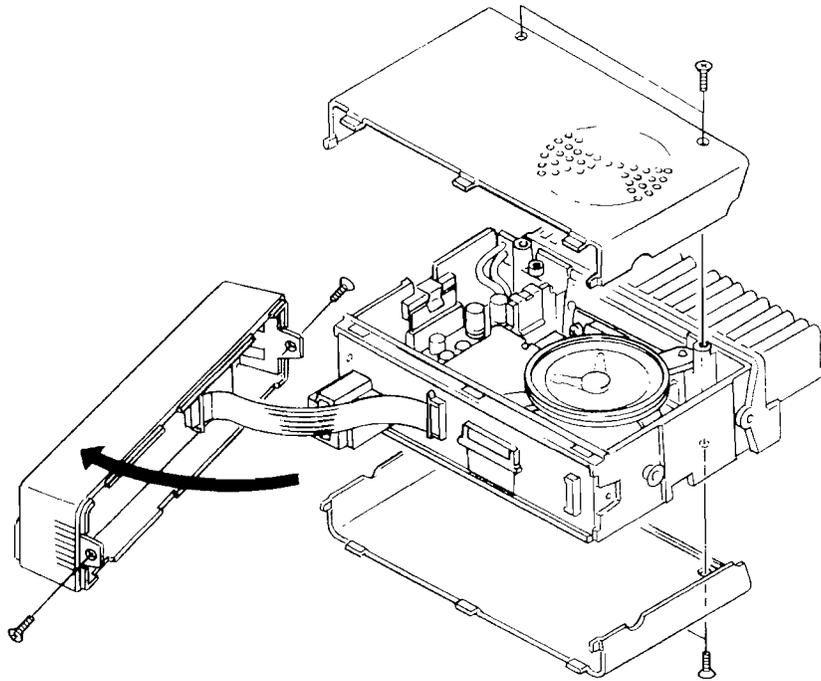

Fig. 3
1. Remove the two halves of the case transceiver and the control panel. (Fig. 3)